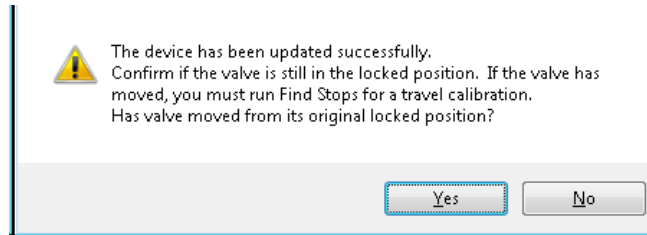

Figure 110 - Device Update Successful
6. Once complete, Figure 110 appears.